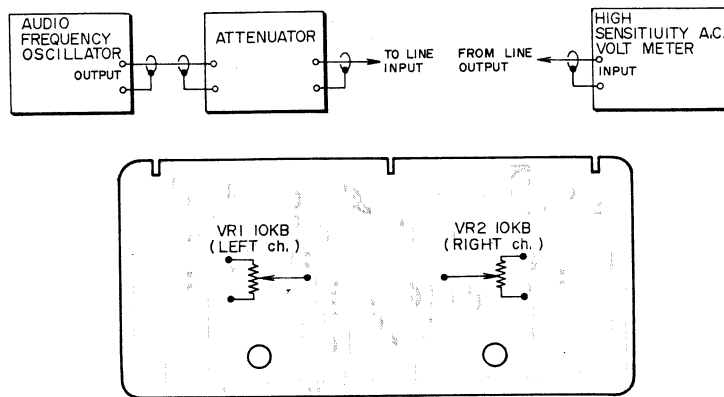

Fig. 14
#### 4. PEAK LEVEL INDICATOR LIGHTING LEVEL ADJUSTMENT (Refer to Fig. 14)
- 1) Connect measuring instruments as shown in Fig. 14 above.